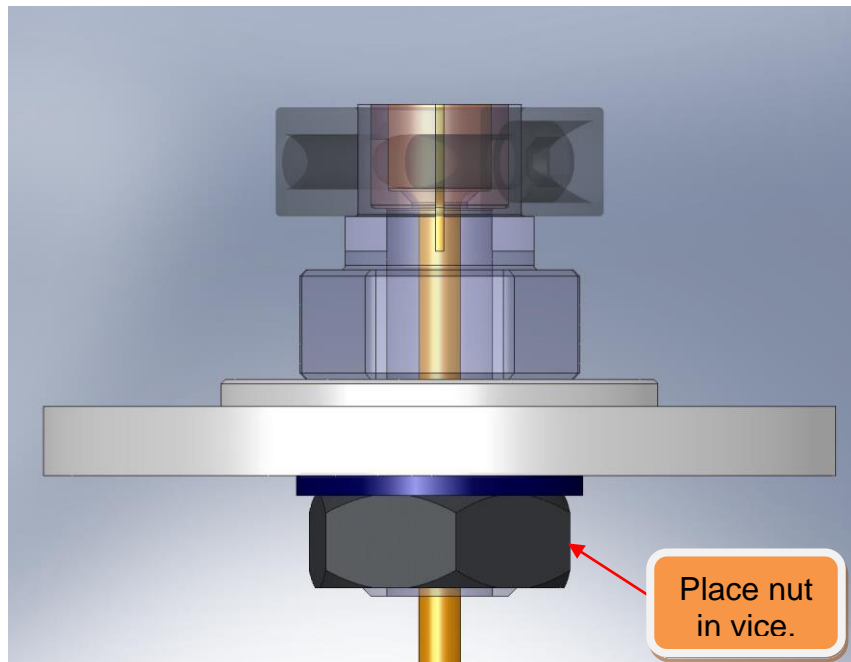

Figure 4.12. Seat the Flexure within the Flexure Mount, then apply a small amount of clamping force from the shaft collar.
- Hold the **D0900206** nut tightly (e.g., using a vice), in the orientation shown in Figure 4.12. Push the head of the **Flexure** into the **Flexure Mount**, until the **Flexure** and **Flexure Cups** are all fully seated. Partially tighten the shaft collar screws.